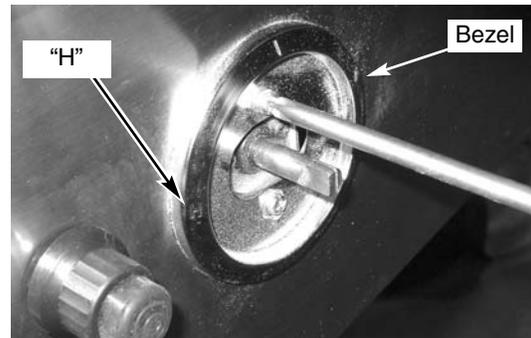

Fig 44
9. Reattach the bezel to the front of the side burner and the NG valve with the two screws previously removed (Fig. 44).